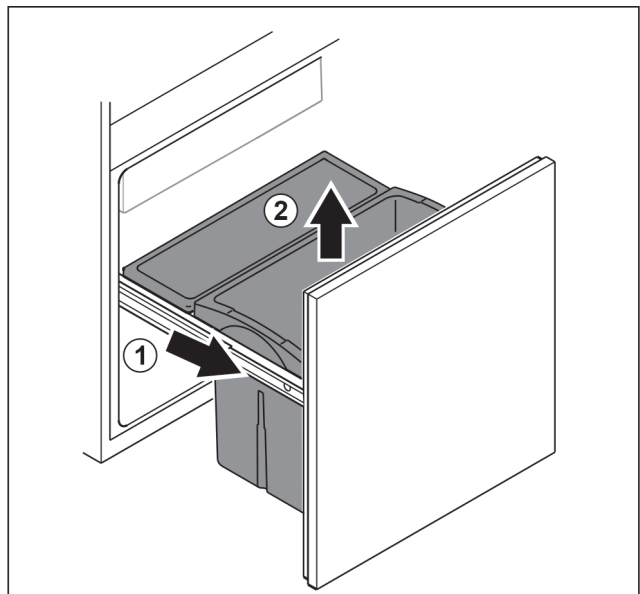

Fig. 153
- ▶ Remove the pull-out unit as far as it will go. Fig. 153 (1)
- ▶ Remove drawer upwards. Fig. 153 (2)